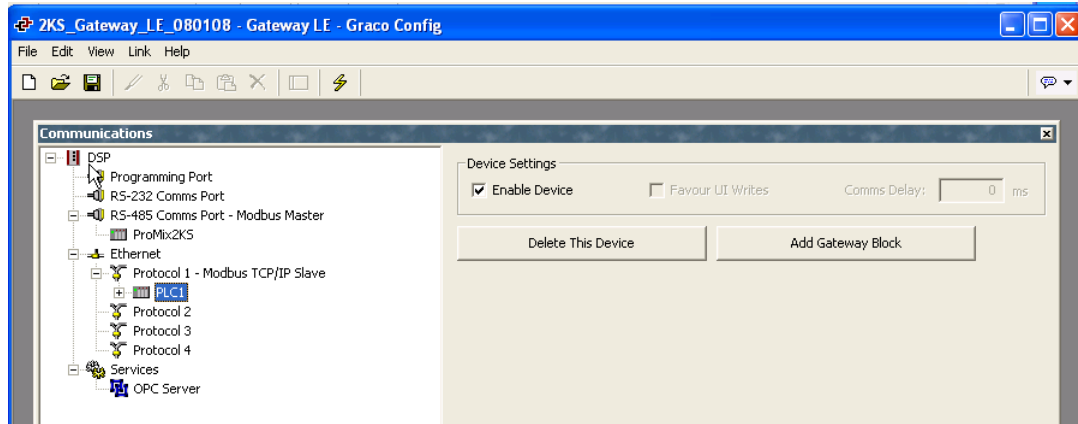

FIG. 20: Rename PLC1
- See FIG. 20. Right click on device PLC1 to rename it to something meaningful for your system.